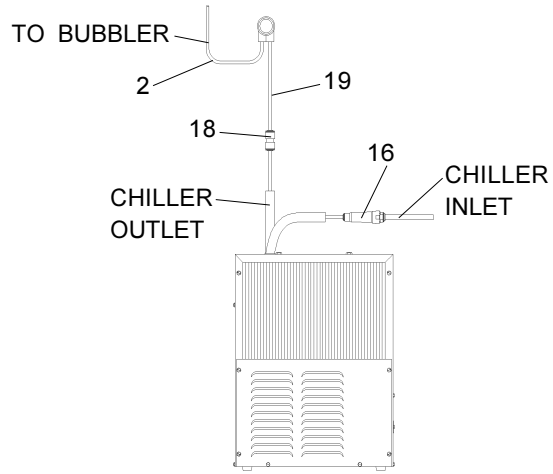

Figure 19 – HTER-Q/HTSR-Q Tube Routing
7. **Make connection between remote chiller outlet tube and fountain(s).** Outlet port is marked on the chiller (1/4" O.D. copper tube). Install a 1/4" union/tee (provided) on the marked chiller outlet port. Insert the 1/4" poly tubing coming from the fountain(s) into the union/tee. Turn on water supply and check for leaks.(See Figs. 19 or 20)